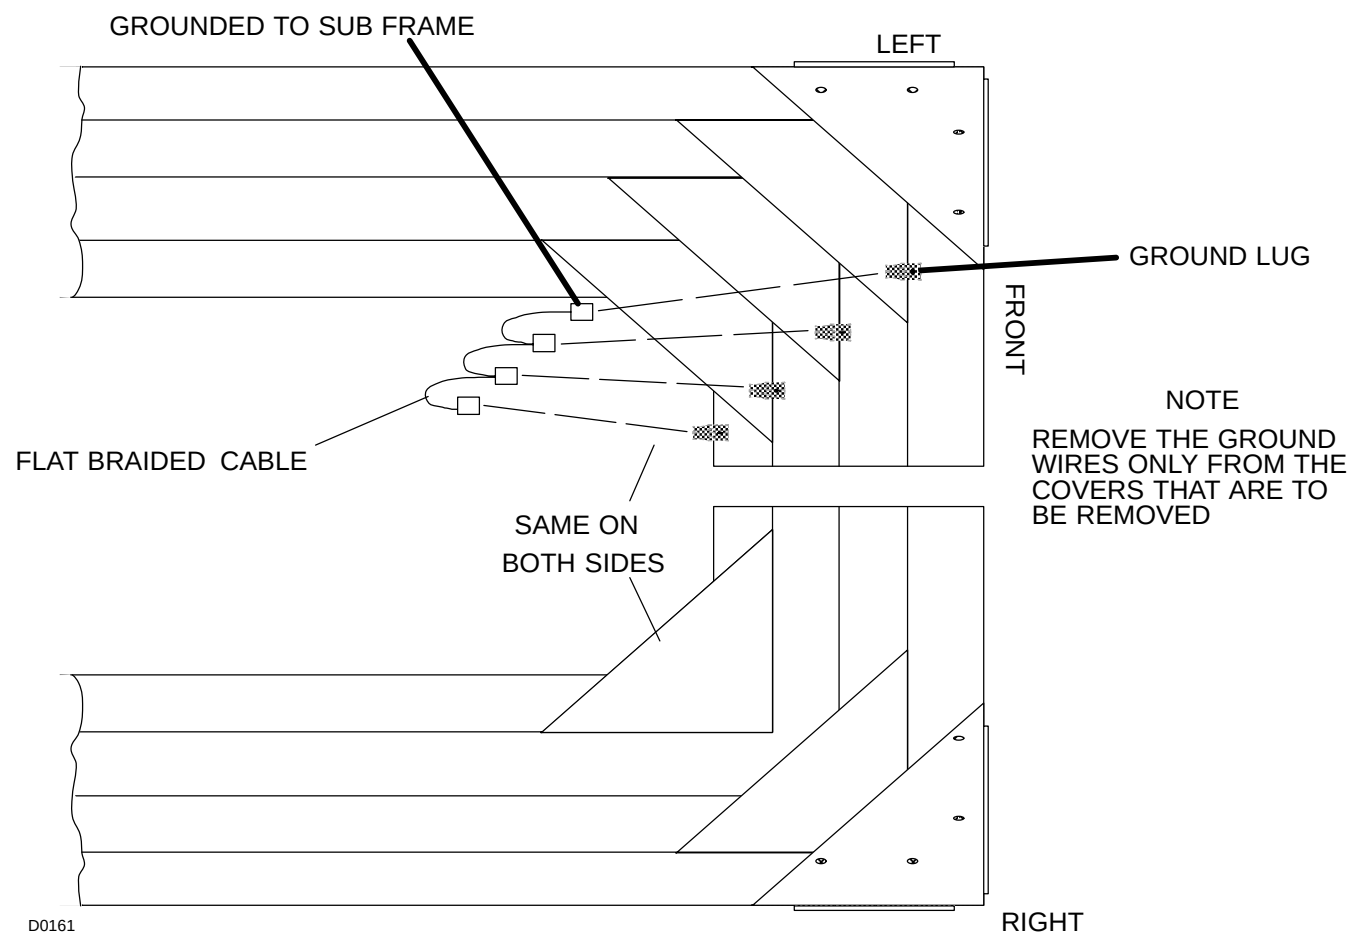

FIGURE 113 TELESCOPING BASE COVERS – GROUND CONNECTIONS
3. Carefully replace the side panels. Connect the ground wires to the side panel surfaces. Refer to Figure 113.